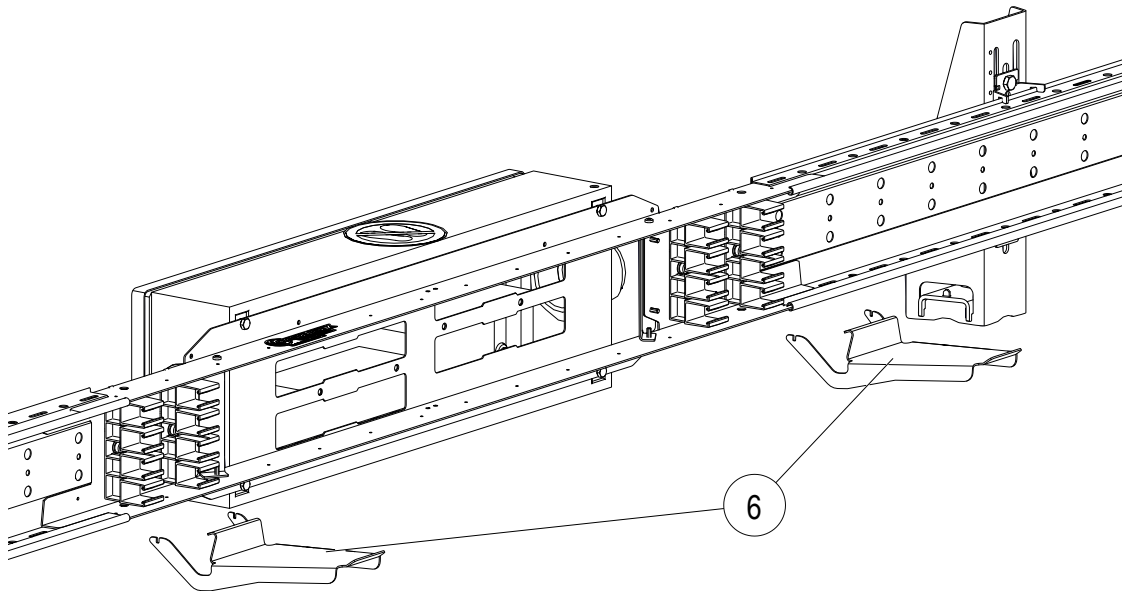

Fig. 32: Hook auxiliary console (6) onto ProShell support profile
1. Hook the auxiliary consoles (6) onto the ProShell support profile rails (see Fig. 32).